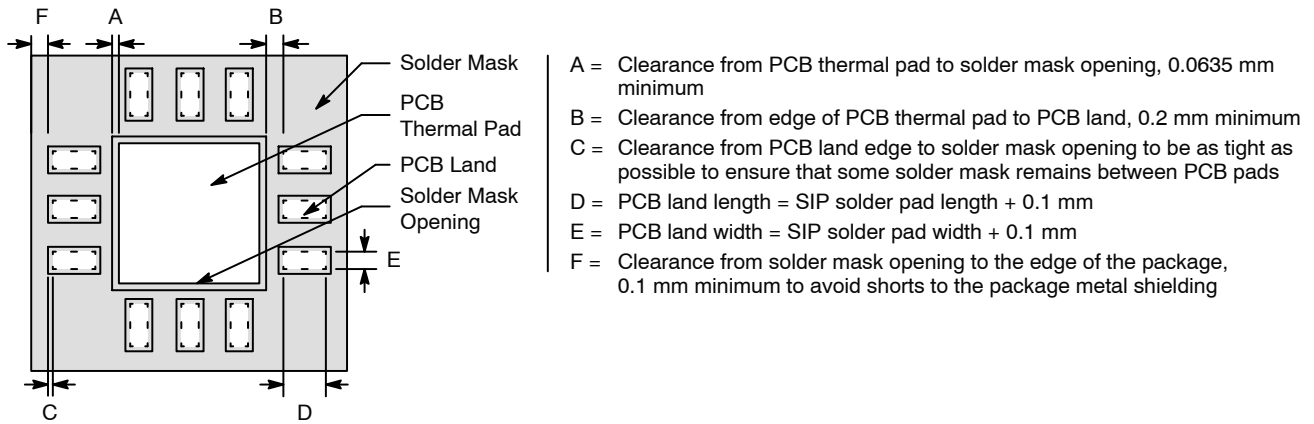

Figure 6. PCB Land and Solder Mask Recommendations
1. PCB footprint and DFM recommendations are shown in Figure 6. *In particular be aware of the spacing "F" to avoid shorting pads to the conductive conformal shield coating the SiP.*